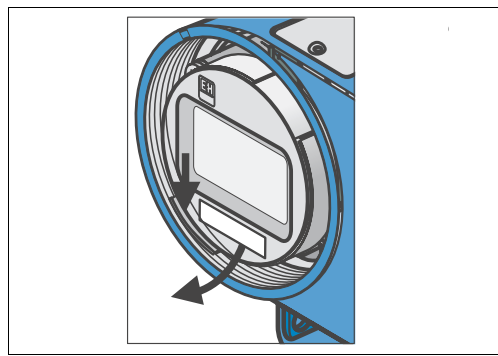

Fig. 8: Removing display
1. Unscrew the lid over the display and push the tab towards the outside (Fig. 8).